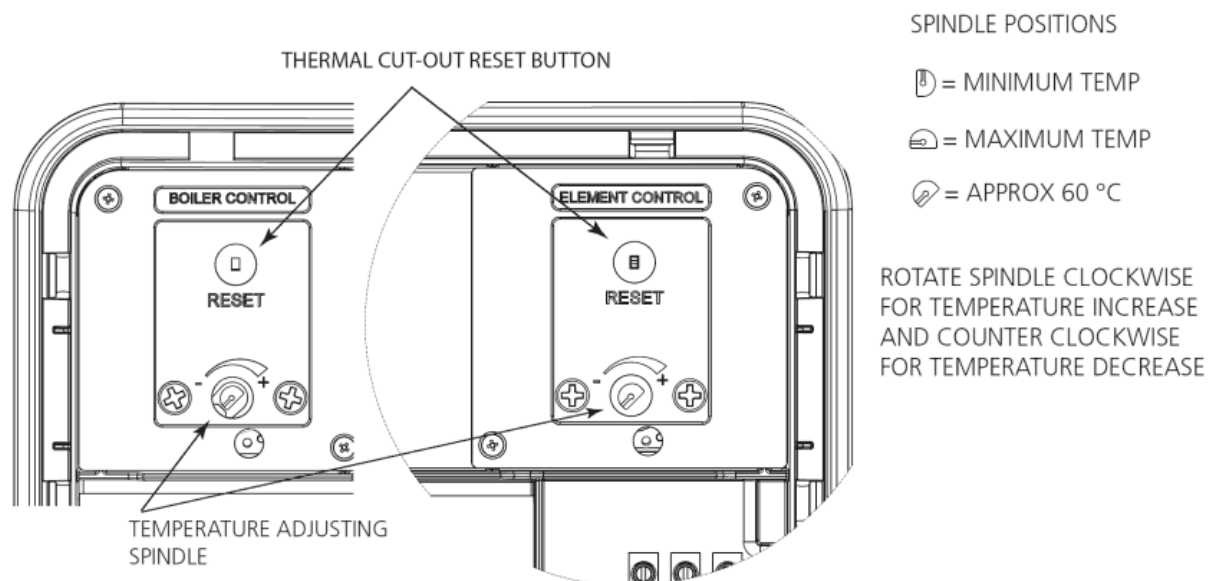

Figure 11: Thermostat adjustment
- # Temperature adjustment is made by inserting a flat bladed screwdriver in the slot on the adjustment disc on top of the thermostat and rotating. The adjustment represents a temperature range of 12°C to 72°C. Figure 11.